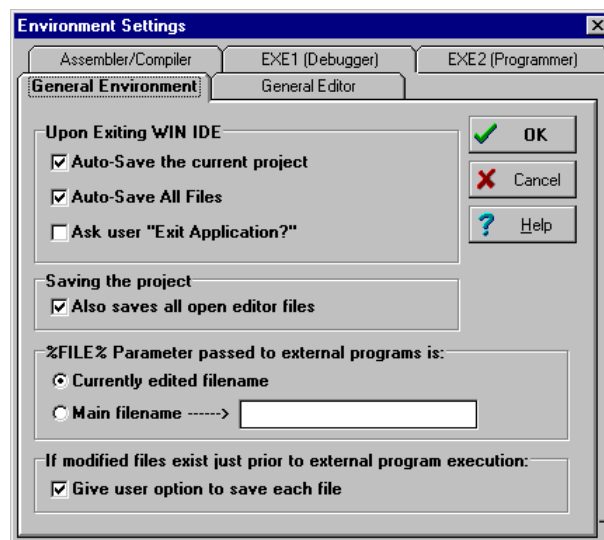

**Figure 4-13. *Environment Settings* Dialog
Click the *General Environment* tab in the *Environment Settings* dialog (Figure 4-13) to change options for saving the project files, exiting the WinIDE editor, and storing a filename to be passed to an external program as a parameter.
- **Options:** Enter the options to pass to the compiler on the command line. Such options generally consist of switches that instruct the compiler, and a filename. Enter the *%FILE%* string in the command line to insert either the current filename or the filename specified in the *Main Filename* option in the *EXE Path* text box of the *General Environment* tab options (Figure 4-13).